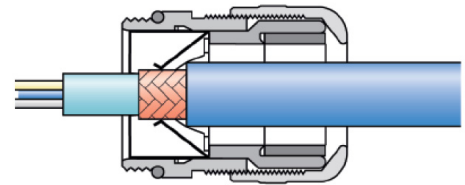

Figure 29: Cable entry
3. The cable entry should be done as shown in Figure 29.